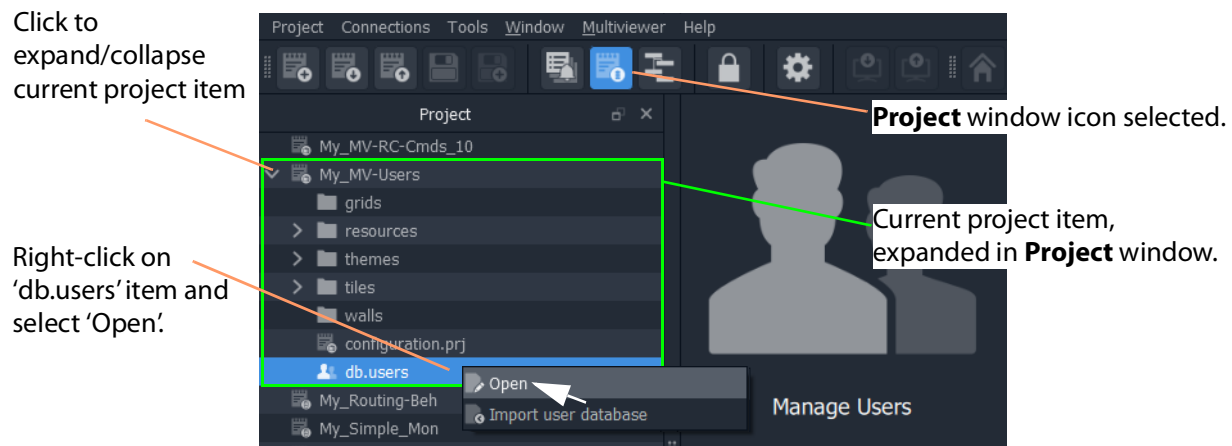

Fig. 4-3: Open Manage Users Tab from Project Window
- 5 Right-click on the 'db.users' item and select 'Open'. See Figure 4-3.